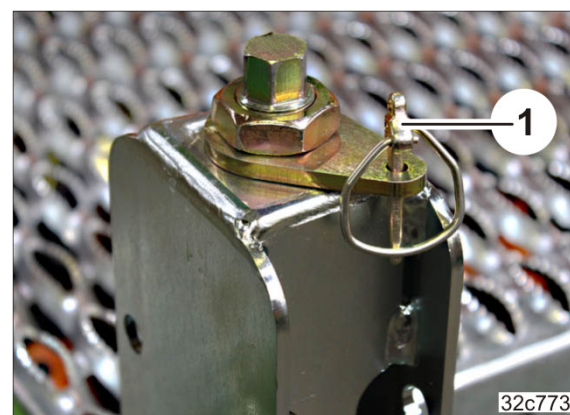

Fig. 190
4. Secure the adjustment by inserting a linch pin (Fig. 190/1).